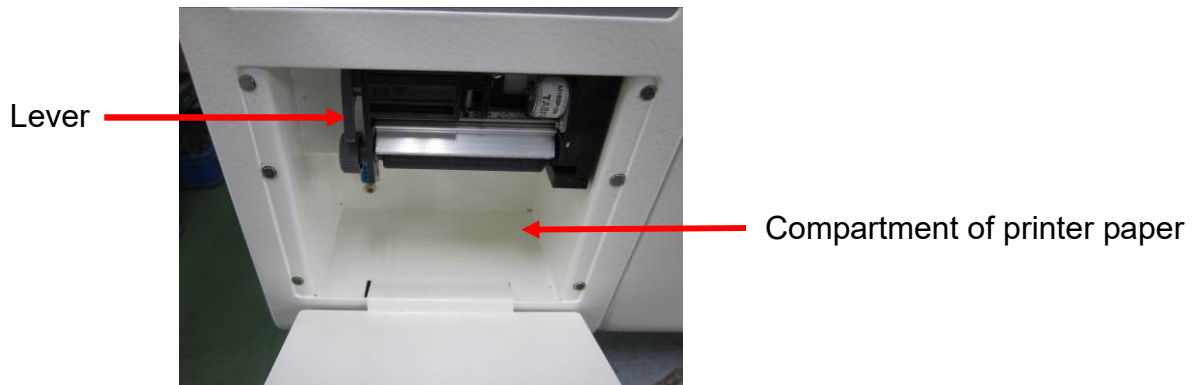

Figure 139
- C. Take out the empty roll from the compartment (See Figure 139), and replace with a new one. In order to print correctly, please load the thermal paper according to the instruction of the thermal paper for the printing side.